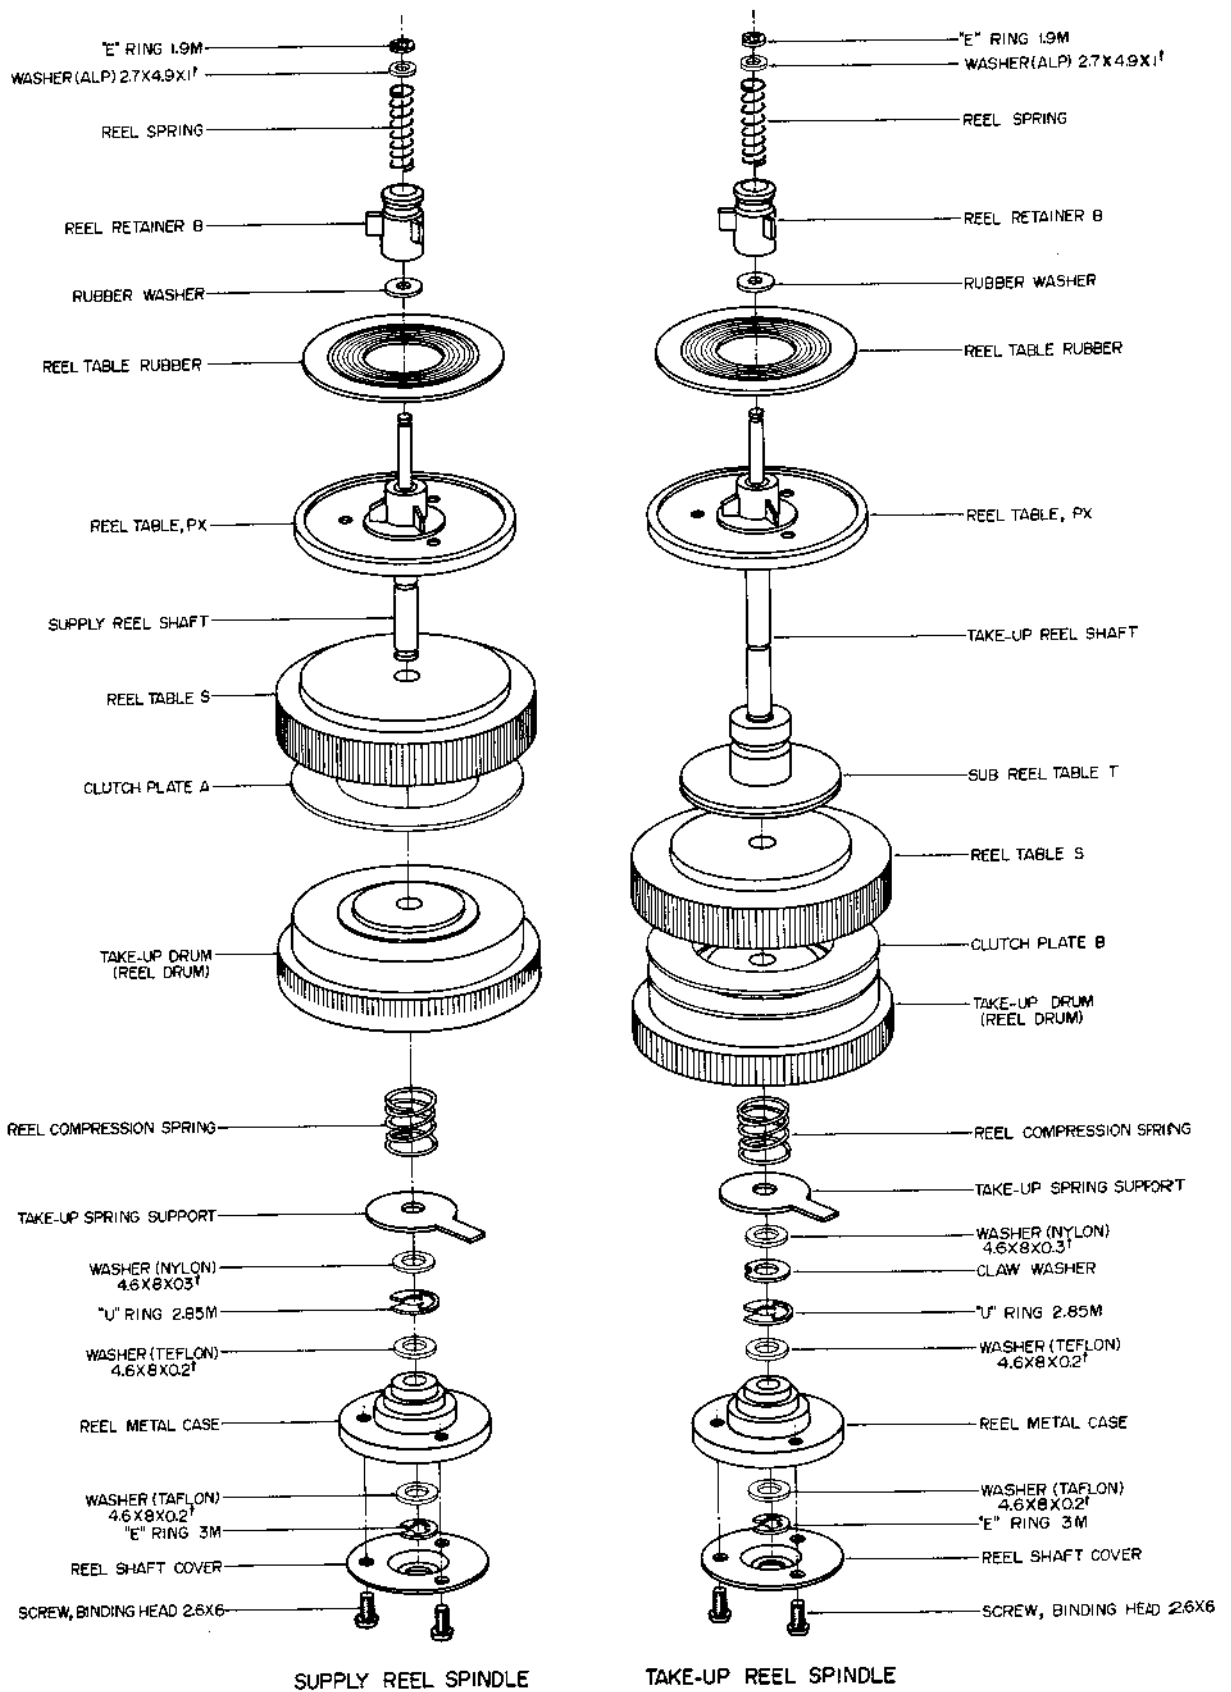
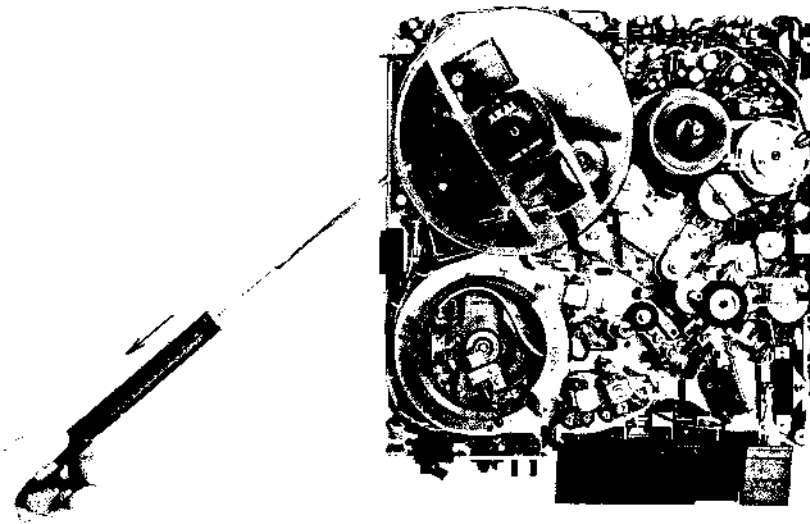

Fig. 1-7
Fig. 1-8
- b) It is satisfactory if the value is 60 to 110g with tape being rolled onto reel and this value plus 10 to 20g when the tape is pulled away from the reel table. Because the take-up torque value is determined by the take-up spring inside the take-up reel table, if the torque is not correct, adjust by regulating the strength of this spring. (Refer to Fig. 1-7)
(6) TAPE HOLD-BACK TENSION ADJUSTMENT
- a) As shown in Fig. 1-8, using the same reel as described in Part (5), Item(a), set reel on supply reel table and with a 0 to 50g spring gauge, measure the supply reel table hold-back tension at playback mode.
(9) BRAKE TORQUE MEASUREMENT
- a) At stop mode, measure the supply reel and take-up reel brake torque using the same reel as in Part (5), Item (a). The supply reel side should be 80 to 130g and the take-up side 80 to 120g.
- b) As brake torque is determined by the strength of the take-up spring inside the reel assembly, adjust take-up spring according to necessity. (Refer to Fig. 1-7)